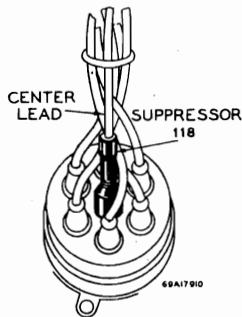

FIGURE 3.
2. Install distributor suppressor as shown in Figure 3.